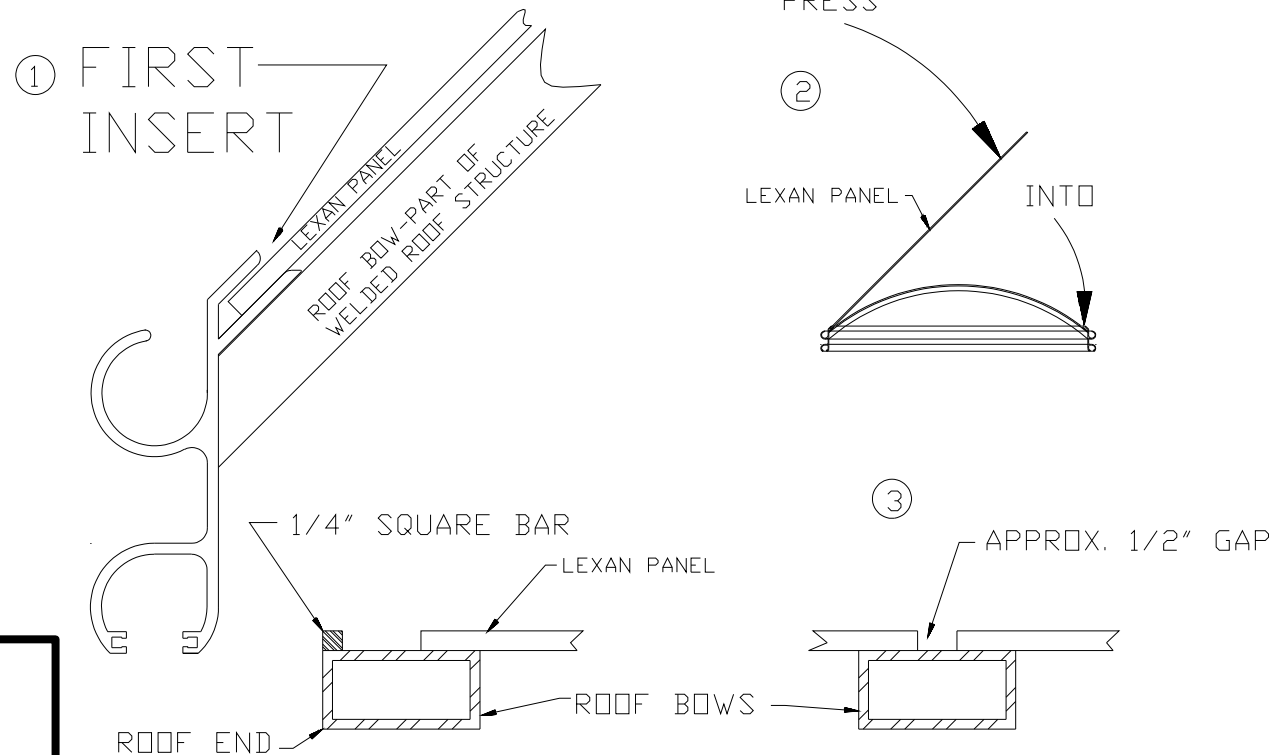

FIG 1
1. There is a film on both sides of the Lexan panel. Examine the panel and note which surface is to be faced externally. Remove film from both sides of Lexan panel. Install edge into groove as shown in Fig 1 (Page 5). Press the panel over the top and into groove on opposite side. There should be a 1/2" gap between panels. Press down firmly so the panel contacts the roof bow at its top.
Model\Fig1.dwg, Model, 02/28/2003 08:28:14 AM